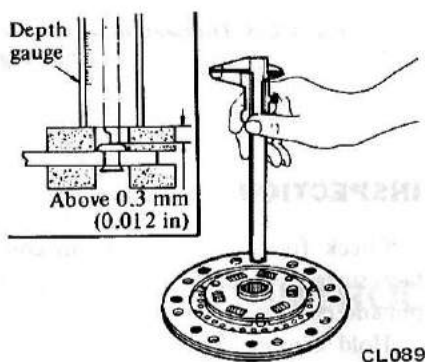

Fig. CL-3 Measuring clutch facing
3. Disc should be replaced if facings are worn locally or worn down to less than 0.3 mm (0.012 in) at rivet. See Figure CL-3.